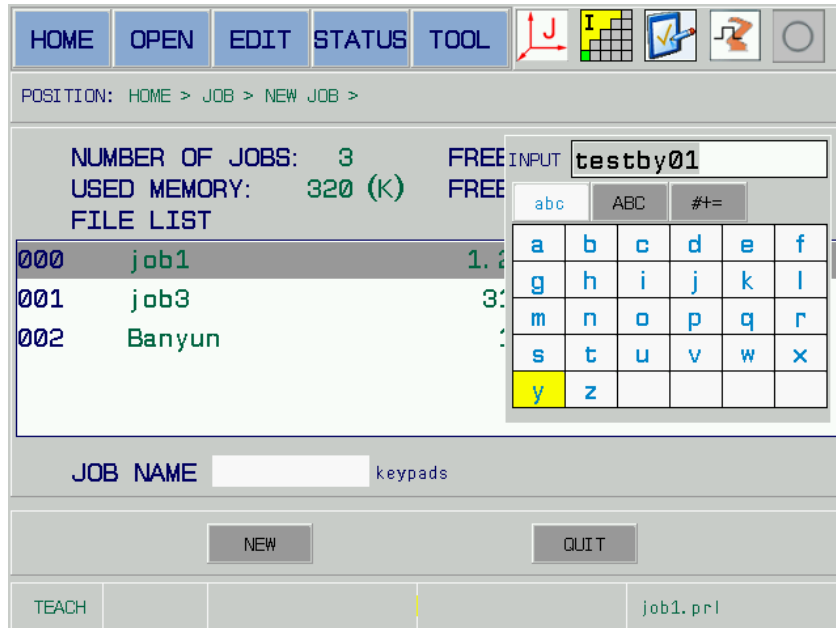

Fig. 5-3
3. After entering the new job interface, shift the cursor to the program name input frame by [TAB], then [SELECT], and then the interface shows the soft keyboard dialogue frame. In this case, the lower case, capital letter and symbols can be shifted by [SHIFT]. Move the cursor to the letter position to be inputted by using the direction buttons. The letter input at the cursor's position can be completed by [SELECT], or directly input numbers on the panel; repeat this input procedure till the input completes. You can clear one character by [Backspace] when the incorrect letter or numbers are input. For example, inputting the program name is testby01.prl; refer to the Fig. 5-3.